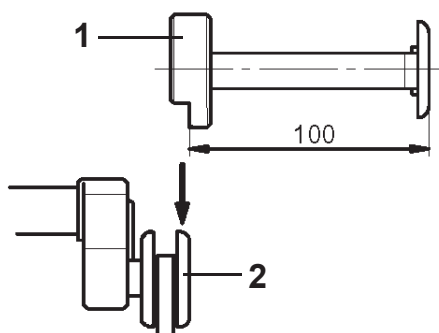

Figure 7
**B.** Mount the SAPE Arm extension (1, Figure 7) to the SAPE disc (2, Figure 7).